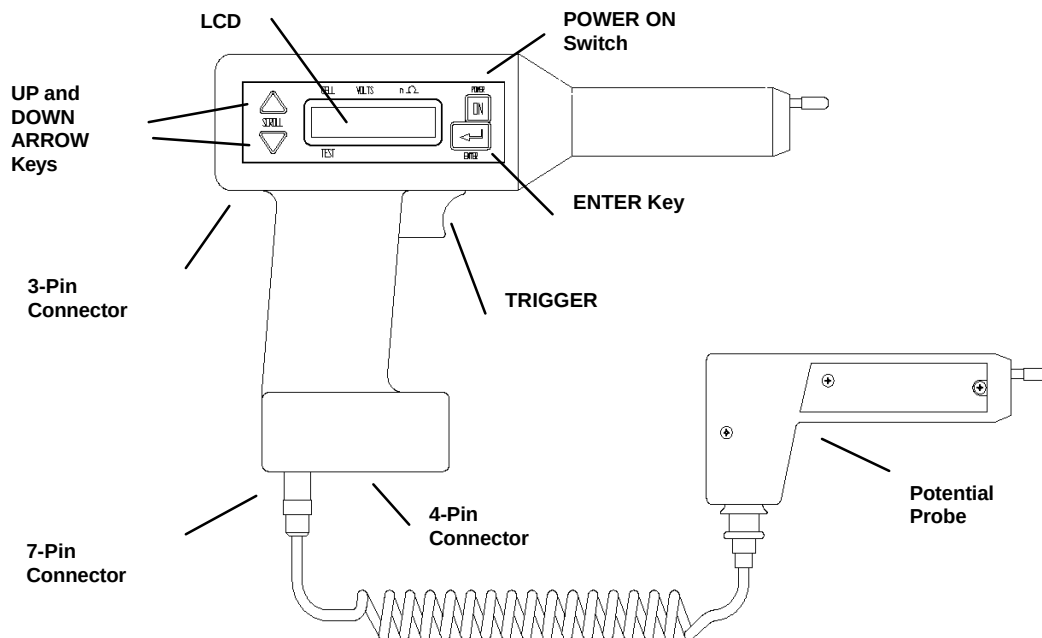

Figure 4-4: Receiver controls, connectors, and indicators
2. Connect the plug of the CT to the 4-pin connector on the **receiver**. Figure 4-4 shows the location of the 4-pin connector.